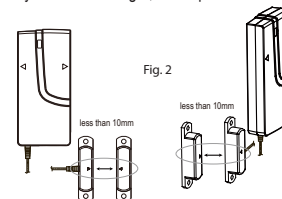

Fig. 2
- The >/< markings on the contacts need to be directly opposite each other and no more than 10mm apart when the door is closed (Fig.2)